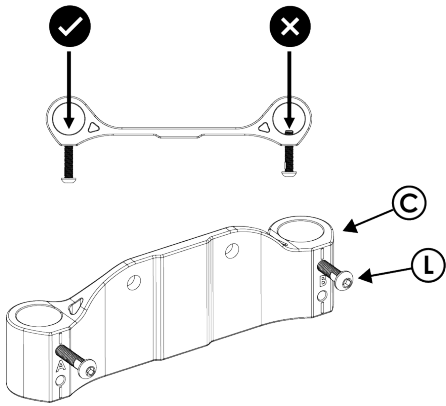

FIGURE 6
6. Partially thread **L** into upper holes in **C**. Do not thread too far - **L** should not block assembly of legs. See *FIGURE 6*.